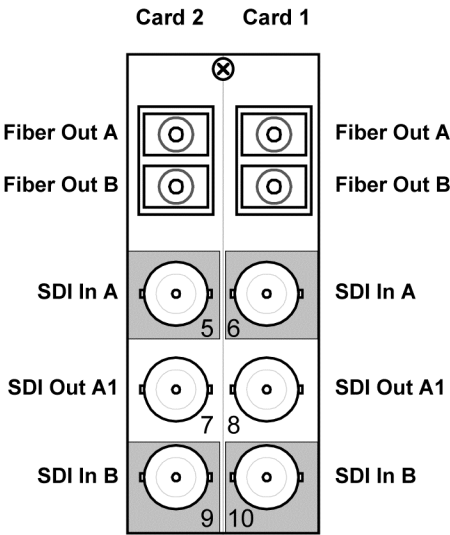

Figure 2.8 Cable Connections for the **RM20-9214-B/S** Rear Module
- **RM20-9214-B/S** Split Rear Module — Each 9214-2EO occupies one slot and provides two optical outputs, two SDI inputs, and one SDI output. **Figure 2.8**